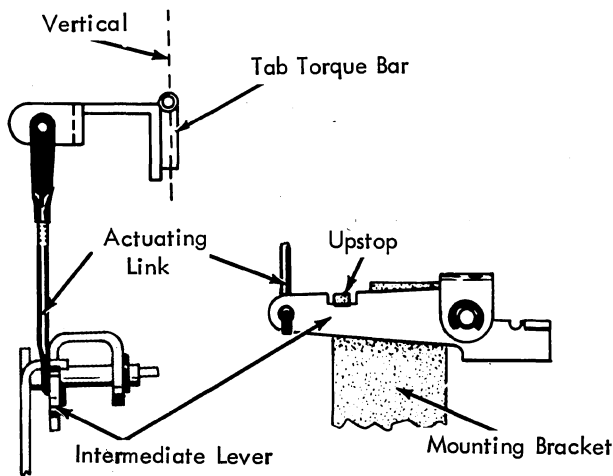

FIGURE 173.2. Actuating Link, 15" Machine
5. Actuating Link (Fig. 173.2) - With the Tab/Sp/BS cam latched and the intermediate lever resting against its upstop, adjust the actuating link clevis so that the tab torque bar hangs vertically.